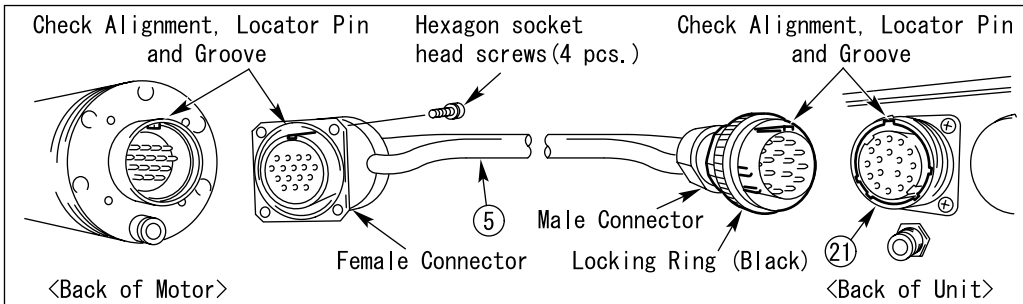

Fig 10
Securely connect the female connector of Motor Cord (5) to the back end of Motor Spindle with 4 pieces of Hex. socket head screws. Insert the male connector into Motor Connector (21) at the back of Control Unit and fasten the locking ring. Be sure to align the shapes and insert the connector. (Fig. 10)